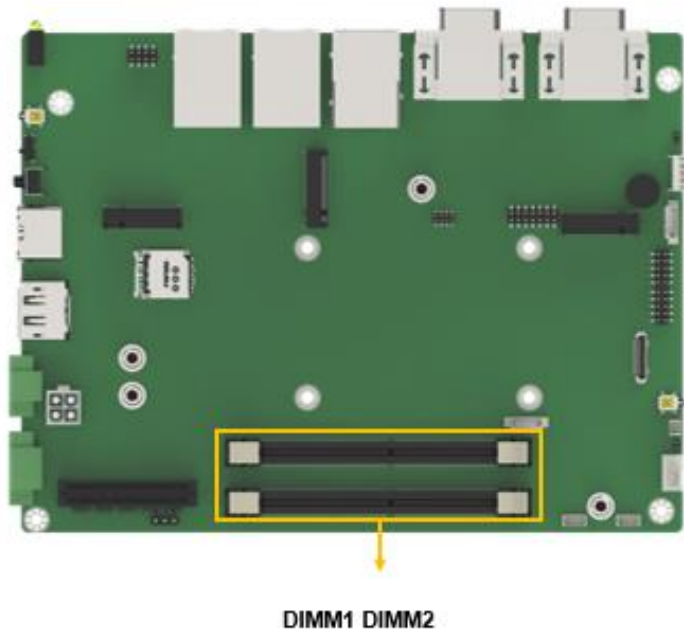

Figure 4-11: DDR4 SO-DIMM Socket Location
- CN Location:** See Figure 4-11